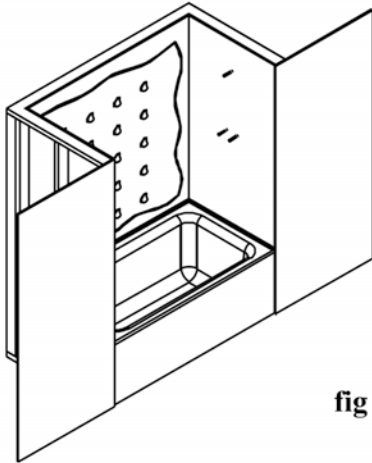

fig 3
4. Wipe the back of the panels making sure they are clean dry and free of dirt and grease. Apply a bead of clear adhesive, on the wall, within 3" of the perimeter of the panel and 1 1/2" diameter portions of clear adhesive spaced 12" apart over the remaining field. Position the panel on the wall and press into place. See figure 3.
7. Cut opening with router bit using the template as a guide. See figure 3.